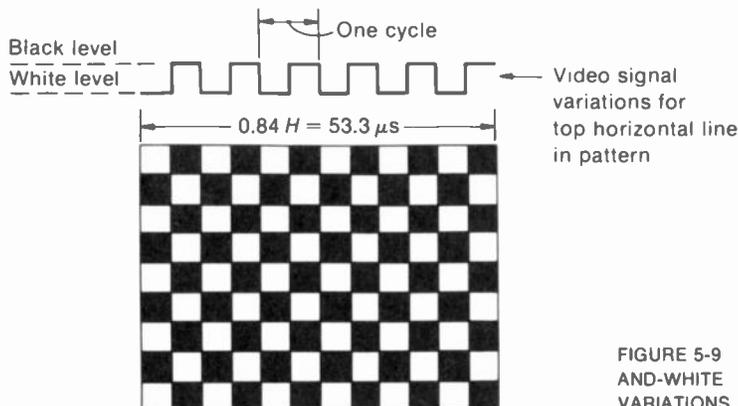

FIGURE 5-9 CHECKERBOARD PATTERN OF 12 BLACK-AND-WHITE SQUARES WITH CORRESPONDING SIGNAL VARIATIONS.
**Video frequencies associated with horizontal scanning.** Referring to the checkerboard pattern in Fig. 5-9, the square-wave signal shown at the top represents the camera signal variations of the composite video signal obtained in scanning one horizontal line. It is desired to find the frequency of this square wave. The frequency of the camera signal variations is very important in determining whether or not the television system can transmit and reproduce the corresponding picture information.
Note that one complete cycle of camera signal in Fig. 5-9 includes the information in two adjacent picture elements, one white and the
Now the period of one complete cycle of the square-wave camera signal variations in Fig. 5-9 can be calculated. The horizontal line period is  $1/15,750$  s, or  $63.5 \mu\text{s}$ , including trace and retrace. With a horizontal blanking time of  $10.2 \mu\text{s}$ , the time remaining for visible trace equals  $53.3 \mu\text{s}$ . This is the time to scan across all the picture elements in a line. For 12 squares across one line in  $53.3 \mu\text{s}$ , the beam scans two squares in  $\frac{2}{12}$  or  $\frac{1}{6}$  of  $53.3 \mu\text{s}$ . Then  $53.3/6$ , or  $8.9 \mu\text{s}$ , is the time to scan two squares.
This time of  $8.9 \mu\text{s}$  is the period of one complete cycle of the square-wave signal. The reciprocal equal to  $1/8.9 \mu\text{s}$  is the frequency, therefore, which is  $0.11 \times 10^6$  Hz, or 0.11 MHz. This is the frequency of the square-wave camera signal variations in Fig. 5-9.
If we consider a checkerboard pattern such as Fig. 5-9 with many more squares, the maximum possible number of picture elements can be calculated where each square is one element. The total elements in the area equal the maximum details in a line horizontally, multiplied by the details in a vertical row. However, horizontal detail and vertical detail must be considered separately in a television picture because of the scanning process. For horizontal detail, the problem is to determine how many elements correspond to the high-frequency limit of 4-MHz video signal. The vertical detail is a question of how many elements can be resolved by the scanning lines.
**Maximum horizontal detail.** Proceeding in the same manner as in the previous section, the number of elements corresponding to 4 MHz can be determined to show the maximum number of picture elements in a horizontal line and the size of the smallest possible horizontal detail. The period of one complete cycle for a 4-MHz signal variation is  $1/(4 \times 10^6)$  s, or  $0.25 \mu\text{s}$ . This is the time required to scan two adjacent picture elements. With two elements scanned in  $0.25$  or  $1/4 \mu\text{s}$ , then eight elements are scanned in  $1 \mu\text{s}$ . Finally,  $8 \times 53.3$ , or 426, picture elements can be scanned during the entire active line period of  $53.3 \mu\text{s}$ . If there were 426 squares in the horizontal direction in the checkerboard pattern in Fig. 5-9, therefore, the resultant camera signal variations would produce a 4-MHz signal.